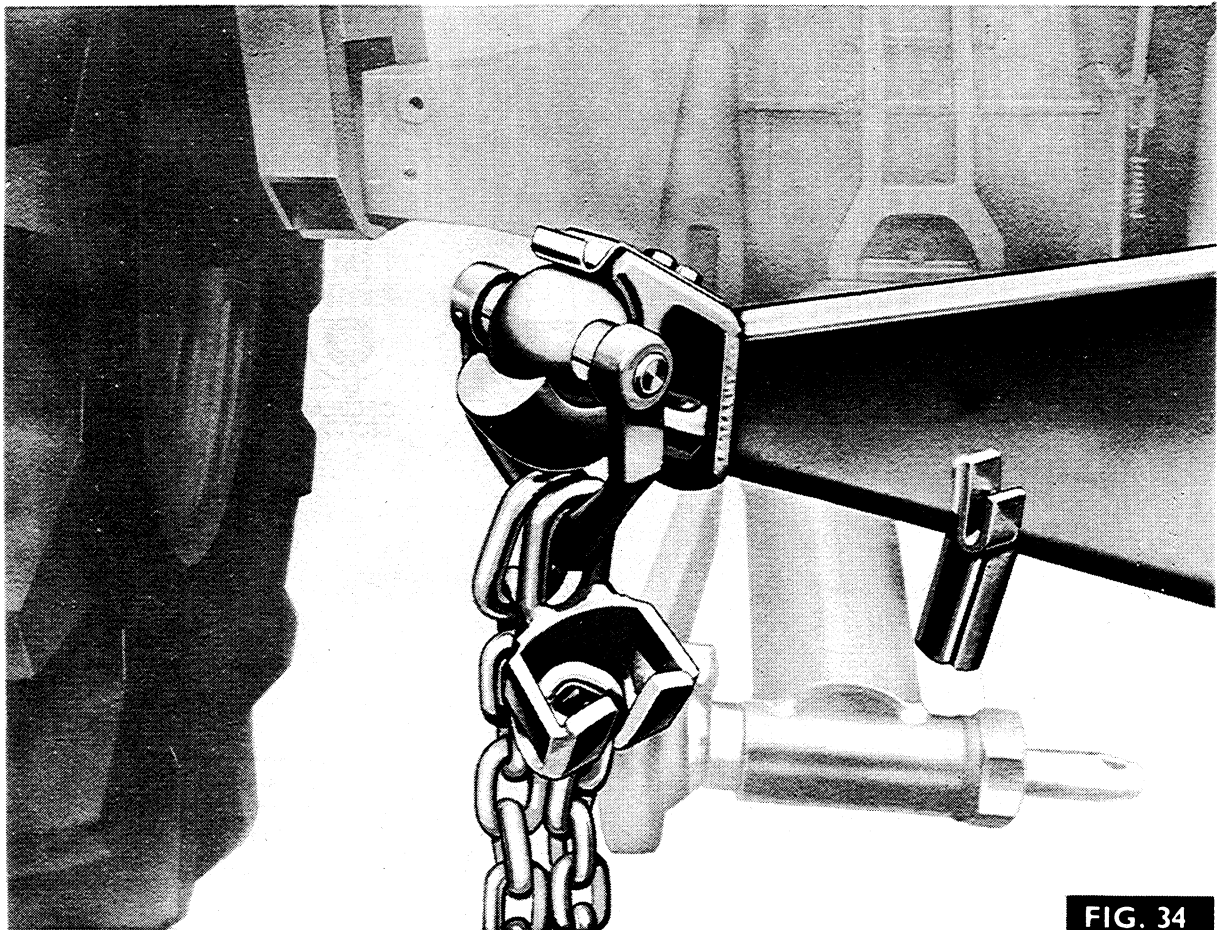

FIG. 34
4. Fig. 34. Loop the chain through the chain anchor bracket(s) and engage the nearest available chain link in the adjusting claw.